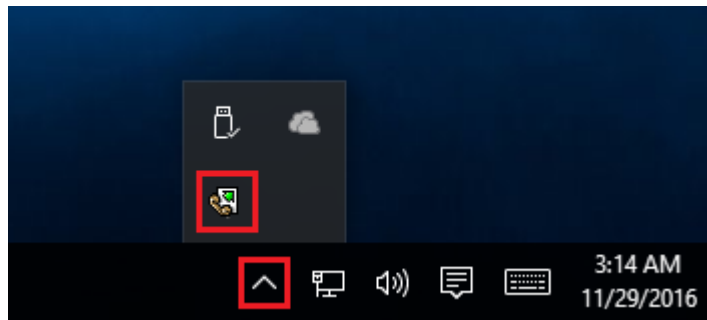

Fig. 6.1.2 Systray - panel near clock
- **Start in minimized state** - at start Advanced OPC Data Logger will automatically minimize the program window to the taskbar or to the Systray (fig. 6.1.2).